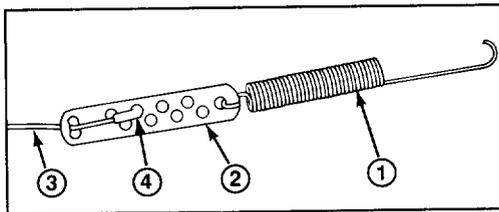

Figure 4
INSTALL CONTROL CABLE (Figs. 4 & 5)
2. Hook spring to round hole at end of cable adjuster (Fig 4).
3. Route cable through elongated hole in cable adjuster. Insert Z fitting on end of cable into 3rd hole on cable adjuster (Fig. 4).